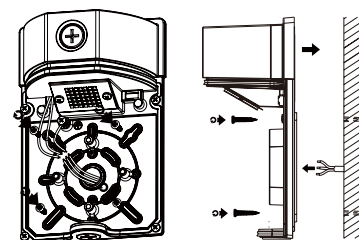

Fig. 5
6. Replace the reflector and lens carefully by reversing procedure used to remove it. (Fig. 5) Installation is complete.